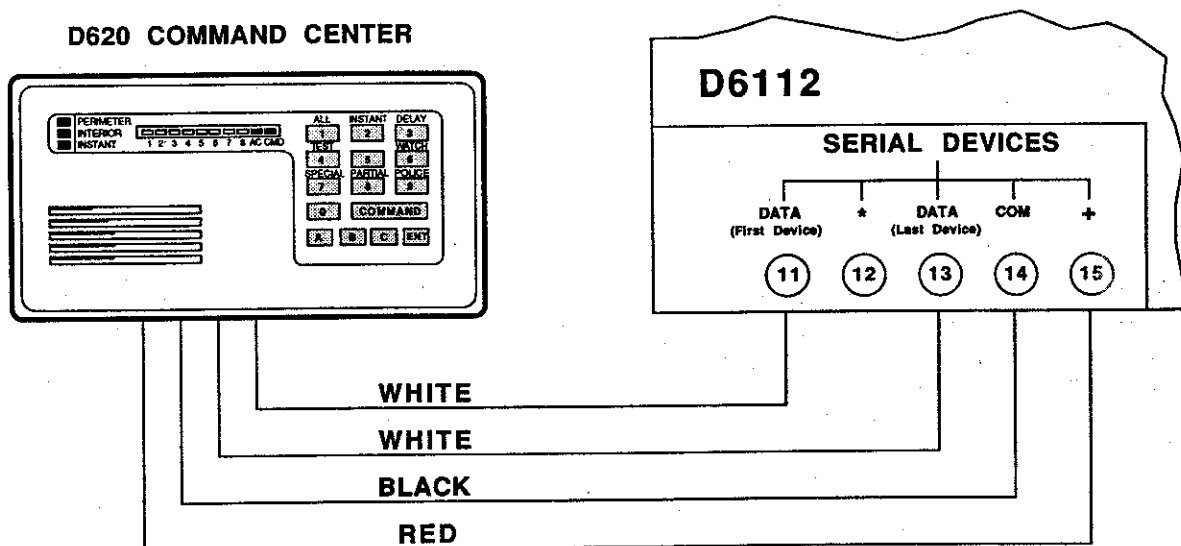
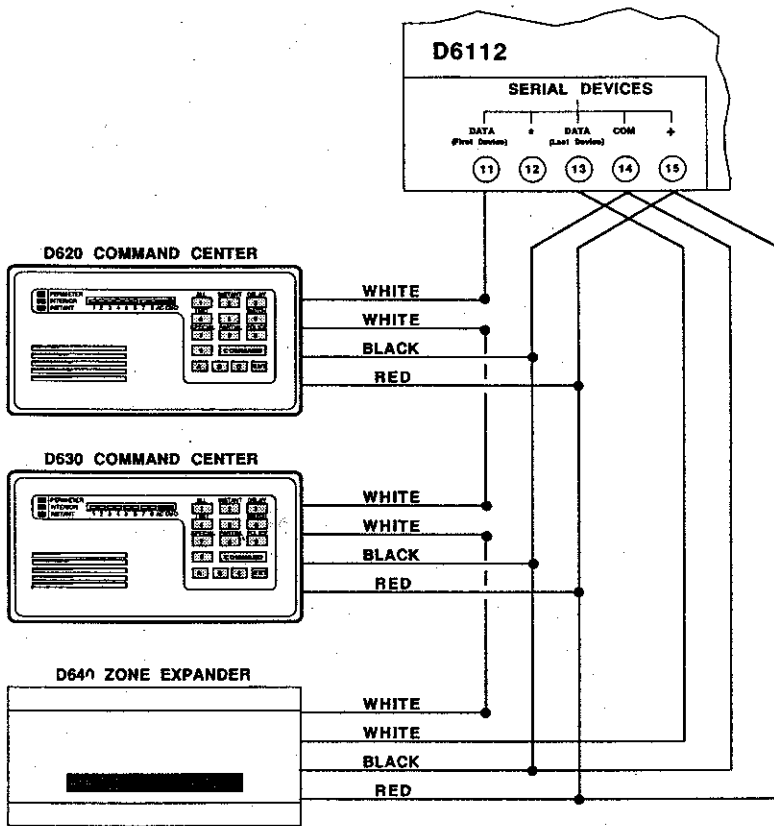
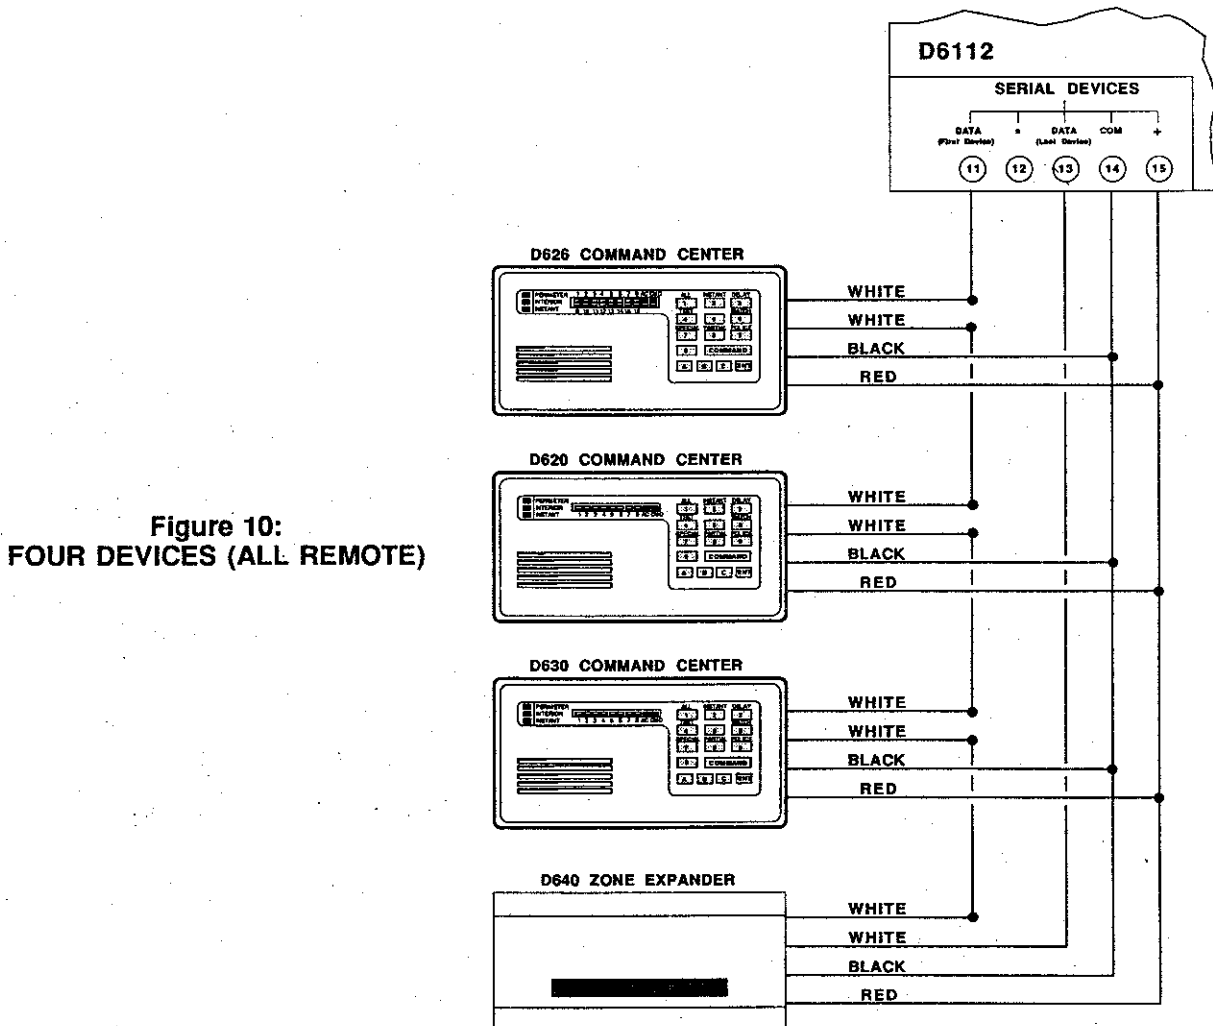

Figure 8: SINGLE DEVICE
Figure 9:
Figure 10:
**14.2 Wiring the Serial Devices** - The cable used to connect the serial devices (Command Centers and zone expanders) to the D6112 can run no longer than a 1000 feet total (no more than 500 feet out, and 500 feet back to the Control/Communicator) when using 22AWG. The wire run between serial devices can be no more than 300 feet. Figure 8 depicts a typical installation using one D620 Command Center. Figure 9 illustrates an installation with three remote devices using return loop wiring techniques. Figure 10 illustrates an installation with four devices connected to the Control/ Communicator.